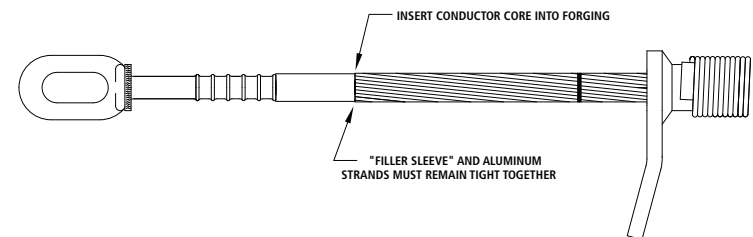

Fig. 5
5. Slide conductor's steel core into ends of the "Steel Forging" barrel. Rotate the "Steel Forging" in a "back-and-forth" motion to ease insertion of the steel core. Ensure "Filler Sleeve" is tight against the aluminum strands as shown in Fig. 5.